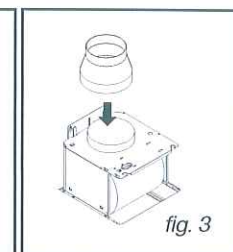

fig. 3
– If a 125 mm flue is being installed, use the adapter provided (fig. 3).